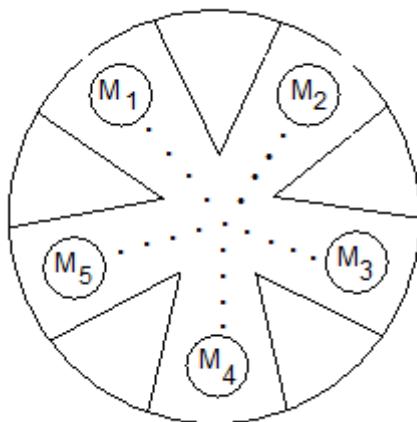

Figure 1
A voltaic cell utilizes a spontaneous oxidation-reduction reaction to produce electrical energy. Half-cells are normally produced by placing a piece of metal into a solution containing a cation of the metal (e.g., Cu metal in a solution of CuSO_4 or Cu^{2+}). In this micro-version of a voltaic cell, the half cell will be a small piece of metal placed into 3 drops of solution on a piece of filter paper. The solution contains the cation of the solid metal. Figure 1 shows the arrangement of half-cells on the piece of filter paper. The two half-reactions are normally separated by a porous barrier or a salt bridge. Here, the salt bridge will be several drops of aqueous NaNO_3 placed on the filter paper between the two half cells. Using the computer as a voltmeter, the (+) lead makes contact with one metal and the (-) lead with another. If a positive voltage is recorded on the screen, you have connected the cell correctly. The metal attached to the (+) lead is the cathode (reduction) and thus has a higher, more positive, reduction potential. The metal attached to the (-) lead is the anode (oxidation) and has the lower, more negative, reduction potential. If you get a negative voltage reading, then you must reverse the leads.
3. Obtain a piece of filter paper and draw five small circles with connecting lines, as shown in Figure 1. Using a pair of scissors, cut wedges between the circles as shown. Label the circles M_1 , M_2 , M_3 , M_4 , and M_5 . Place the filter paper on top of the glass plate.